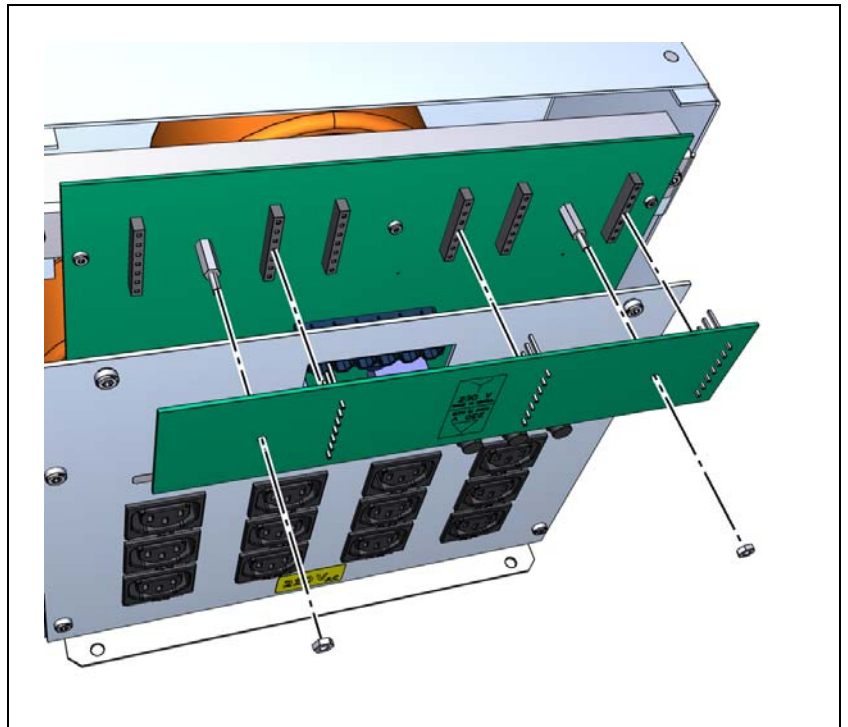

Figure 2-21. Attach XNET2 plug.
10. Align and connect the plug to the EPT3 with the standoffs in the holes of the XNET2 plug (see Figure 2-21). Press firmly to seat the three connectors completely.